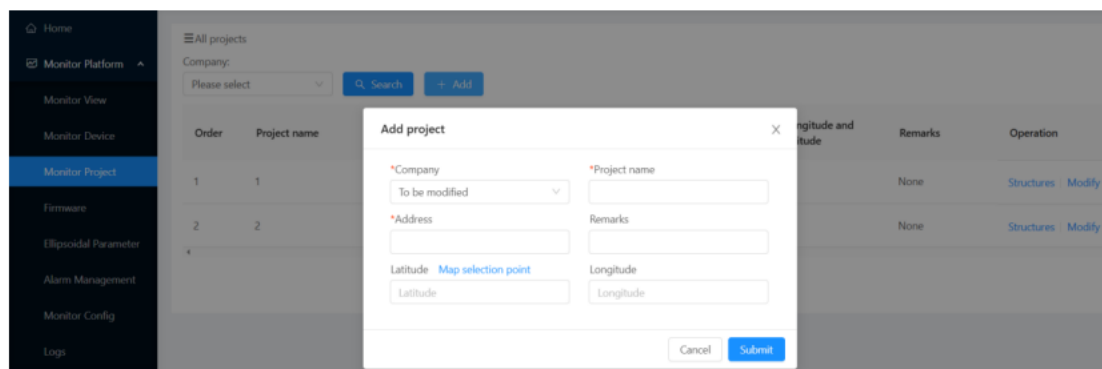

Figure 3-29
(1) Add Project: After devices have been added, navigate to the "Project Management" page to create a new project. Click the **+ Add** button and enter the required fields: "Company", "Project Name", "Address", and optionally the latitude and longitude information. Then click **Submit** to complete the operation, as shown in Figure 3-29.